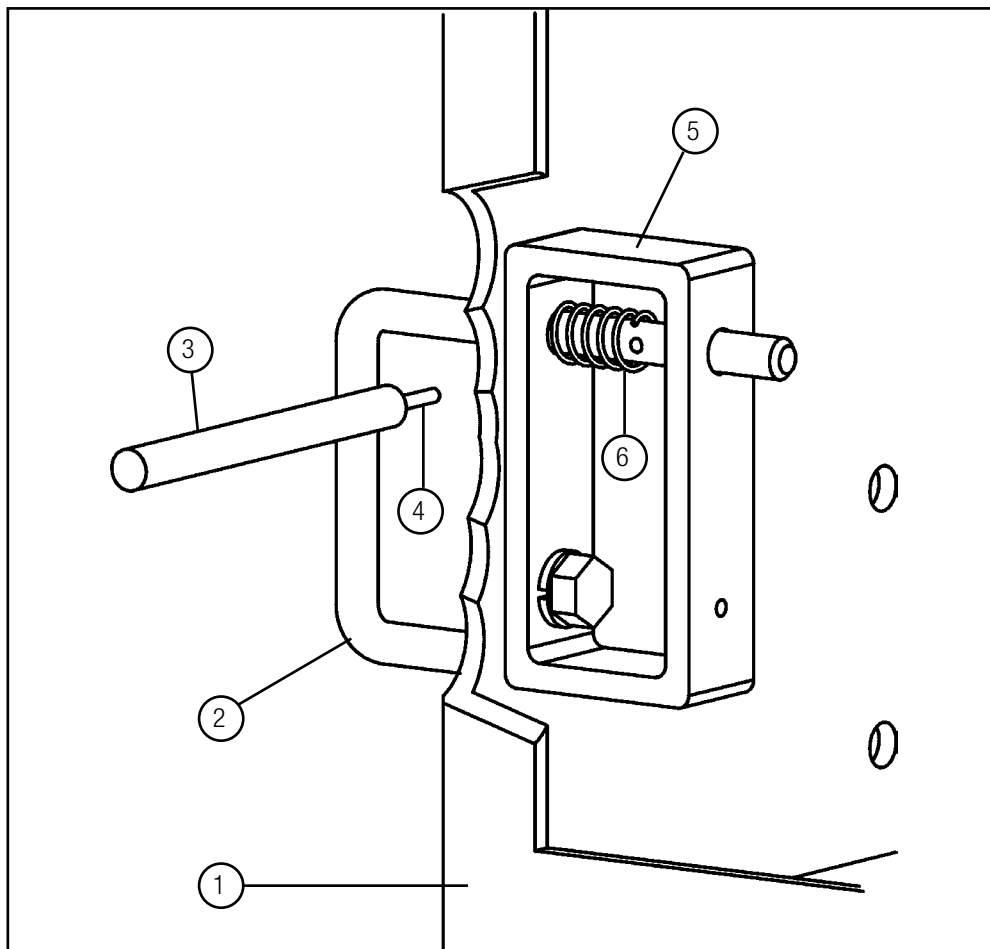

Figure 14-1
All 1900 & 2400 Series Cable Reels can be equipped with an optional Spool Lock. See **Figure 14-1**.
2. Insert the lock into the hole in the frame and the first riser hole. Place the spring on the lock shaft before it goes through the second riser hole. See **Figure 14-1**.